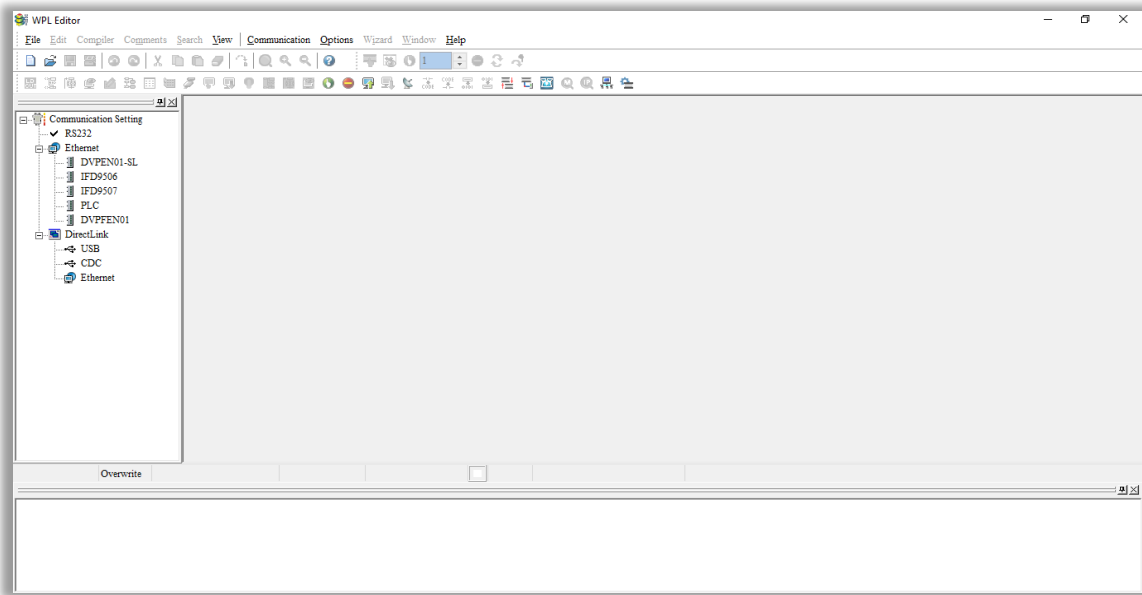

Figure 15-2
Step 2: **WPLsoft Editor** window appears (see Figure 15-2). When running WPLSoft for the first time, as there is no existing file, only **File (F)**, **Communication (C)**, **View (V)**, **Options (O)**, and **Help (H)** are available on the function menu.